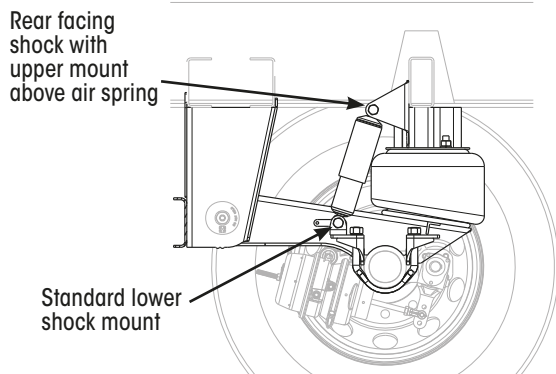

Figure 1: Standard Mount
- The standard HT suspension (Figure 1) has rearward facing shock absorbers that have the upper mount within the trailer chassis.